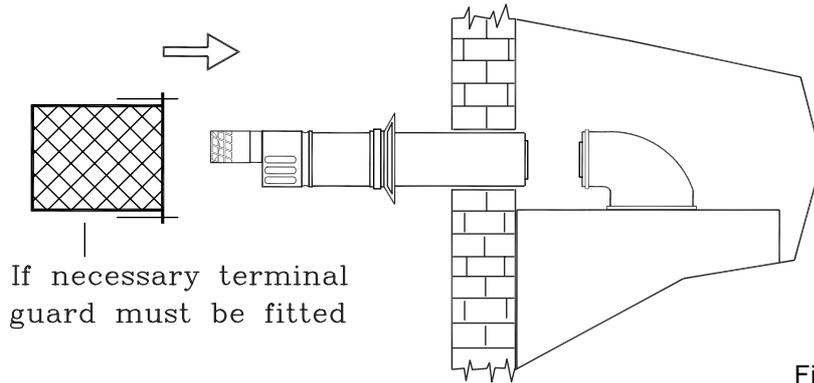

Fig. 21
5.7.7 Working above the boiler pull the flue duct towards the elbow in order to engage tube into its header (Fig. 21). Position flue into straight header and push to locate inner and outer flue correctly. Ensuring good seal is made with o.rings.